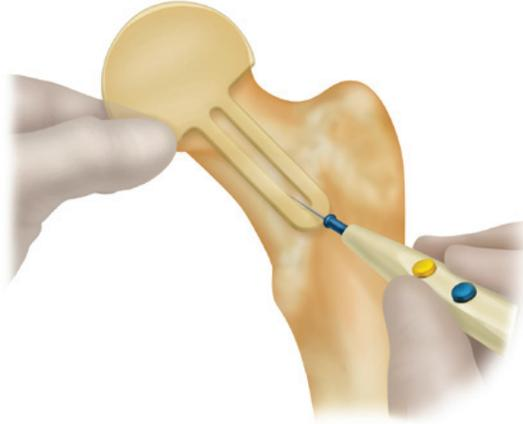

Figure 7
5. Use the slot on the template to mark a point or line on the intertrochanteric crest (Figure 7).